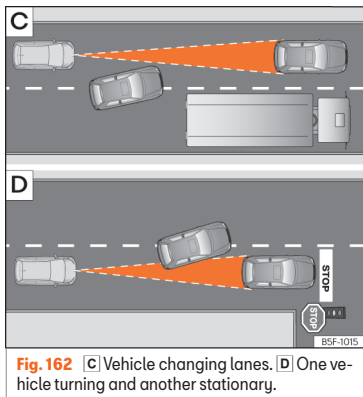

Fig. 162 [C] Vehicle changing lanes. [D] One vehicle turning and another stationary.
- Vehicles that move into your lane, a short distance from your vehicle » **Fig. 162 [C]**.
The ACC does not react to stationary vehicles. If, for example, a vehicle detected by the ACC turns or moves over and there is a stationary vehicle in front of it, the ACC will not react to the second vehicle » **Fig. 162 [D]**.